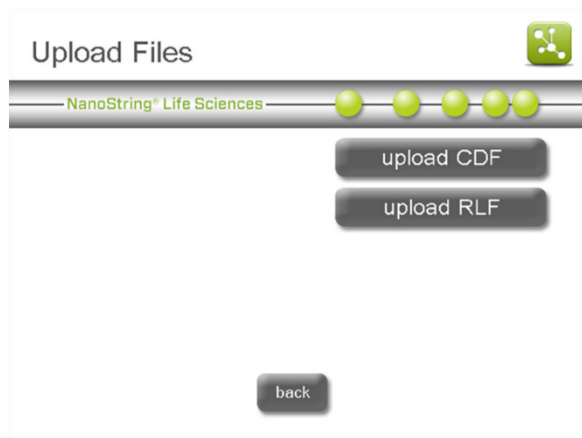

Figure 97: The 'Upload Files' screen.
3. The 'Upload Files' screen will appear (Figure 97).